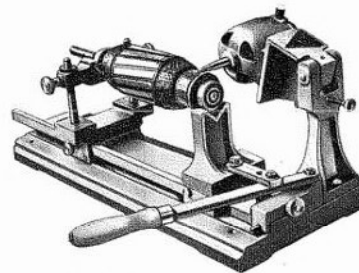

Fig. N.8. Crypton C70 Mica Undercutter
7. The work of undercutting the insulators between the commutator segments is facilitated using preferably the Crypton C.70 Mica Undercutter (see Fig. N.8), observing the remarks made in the preceding paragraphs relevant to this operation. Proceed to operate the Crypton Mica Undercutter in the following manner: